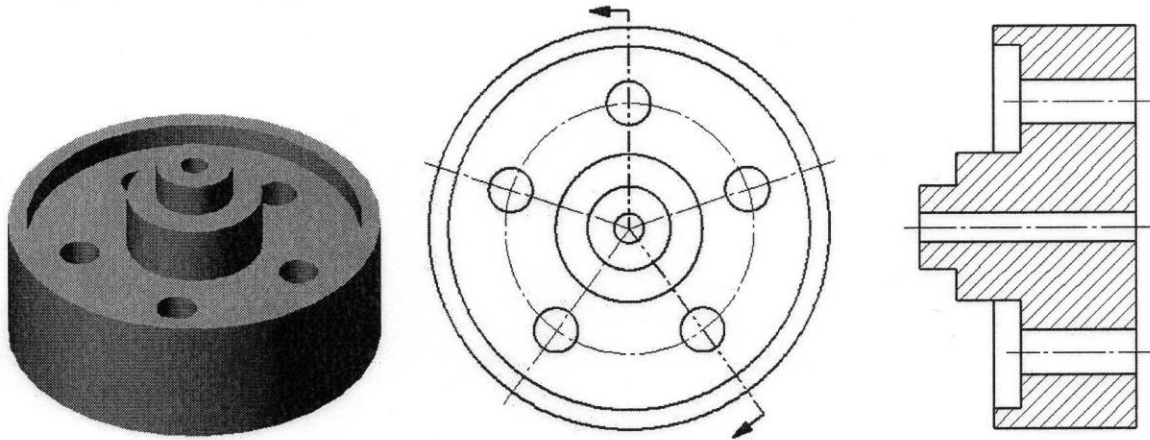

Figure 9. Aligned Section.
7. **Aligned Sections** (Figure 9).